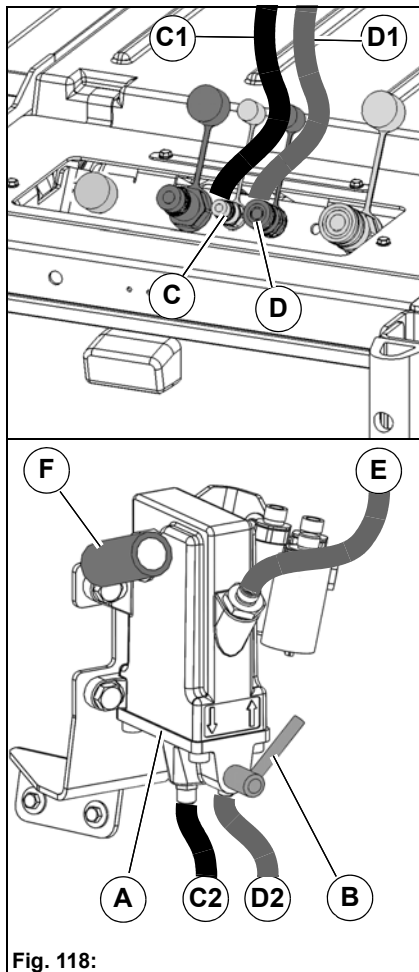

Fig. 118:
The hydraulic hand pump **Fig. 118-A** is used for raising the dirt hopper on failure of the vehicle hydraulics.
- Remove the supply hose **Fig. 118-C1** from the supply connection **Fig. 118-C** of the rear wagon.
- Remove the return hose **Fig. 118-D1** from the return connection **Fig. 118-D** of the rear wagon.
- Connect the supply hose **Fig. 118-C1** to the supply hose **Fig. 118-C2** of the hand pump.
- Connect the return hose **Fig. 118-D1** to the return hose **Fig. 118-D2** of the hand pump.
- Connect the hydraulic hose **Fig. 118-E** (hydraulic tank of the hand pump) to the return connection **Fig. 118-D** of the rear wagon.
- Raising the dirt hopper: Lever **Fig. 118-B** to the right
- Lowering the dirt hopper: Lever **Fig. 118-B** to the left
- Insert the pipe of the auxiliary tool **Fig. 47-24** as a lever into the sleeve **Fig. 118-F**